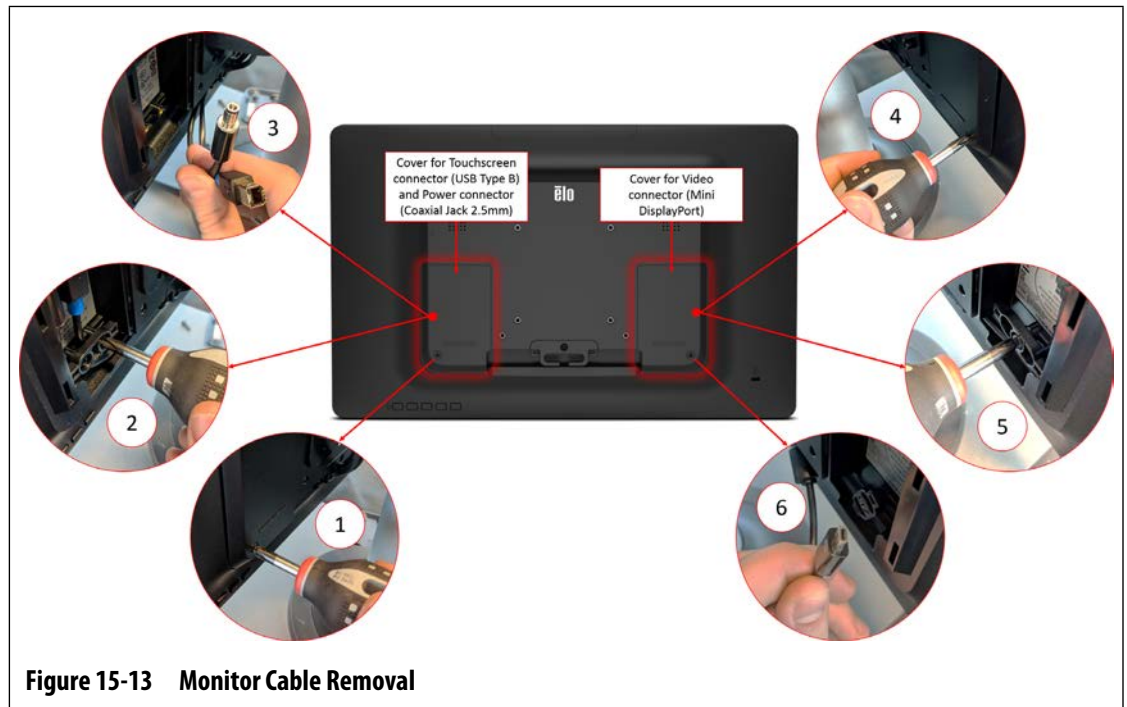

Figure 15-13 Monitor Cable Removal
3. On the back of the touch monitor, towards the left-hand side, find the cover for the Touchscreen and Power connectors, and then remove the screw that secures it with a #4 Phillips screwdriver. Refer to number 1 in Figure 15-13.
4. After the cover has been removed, find the cable retaining bar and remove the screw that secures it with the #4 screwdriver. Refer to number 2 in Figure 15-13.
5. After the cable retaining bracket has been removed, carefully pull downward on the Touchscreen (USB Type B) connector to disconnect it from its port and follow the same step for the adjacent Power (Coaxial Jack 2.5mm) connector. Refer to callout 3 in Figure 15-13.
6. On the back of the touch monitor, towards the right-hand side, find the cover for the Video connector and remove the screw that secures it with a #4 Phillips screwdriver. Refer to callout 4 in Figure 15-13.
7. After the cover has been removed, find the cable retaining bar and remove the screw that secures it with the #4 screwdriver. Refer to callout 5 in Figure 15-13.
8. After the cable retaining bracket has been removed, carefully pull downward on the Video (Mini DisplayPort) connector to disconnect it from its port. Refer to callout 6 in Figure 15-13.